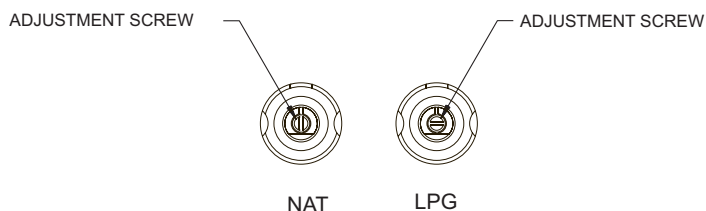

Figure 19
5. Place burners into grill and insert burner tubes over orifice fittings. Secure each burner with one (1) 1/4-20 x 3/4 phillips screw from Step 2.
7. The low input adjustment screws are located inside the two valve stems. Use a small screwdriver to turn each adjustment screw clockwise 1/4 turn (90 degrees). When valves are in the "OFF" position, the slot in the adjustment screw should be vertical. See Figure 19.